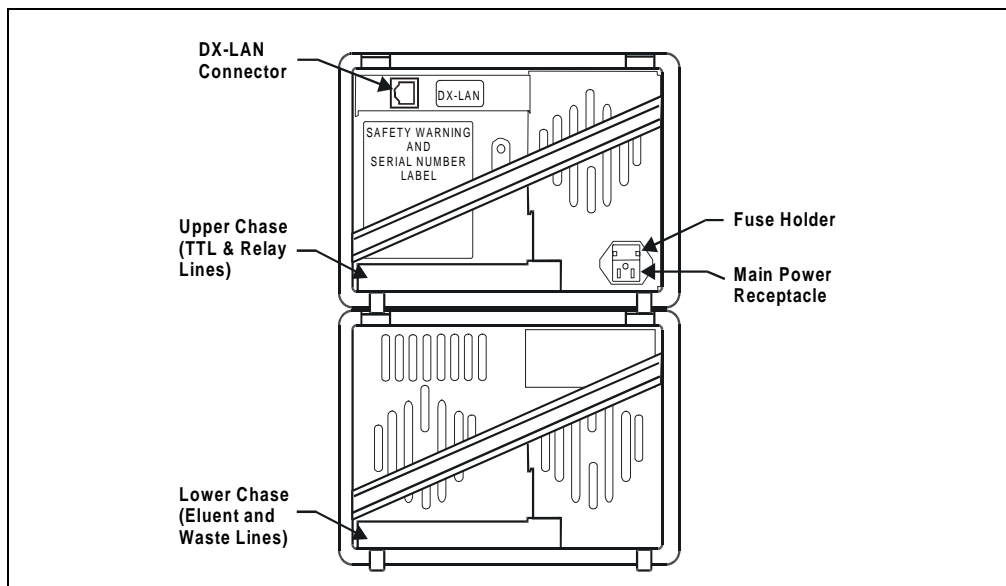

Figure B-1. IC25 Rear Panel
Connect a modular power cord (IEC 320 C13) from the main power receptacle on the IC25 rear panel (see Figure B-1) to a grounded, single-phase power source.
1. To replace an existing detector interface card, remove the DX-LAN cable from the 10BASE-T connector on the IC25 rear panel (see Figure B-1).
3. Connect the other end of the cable into the 10BASE-T DX-LAN connector on the IC25 rear panel (see Figure B-1).
1. To replace an existing detector interface card, remove the hex nut securing the DX-LAN BNC connector to the IC25 rear panel (see Figure B-1).
- a. Note the two small locking pins on either side of the DX-LAN BNC connector on the rear panel (see Figure B-1).